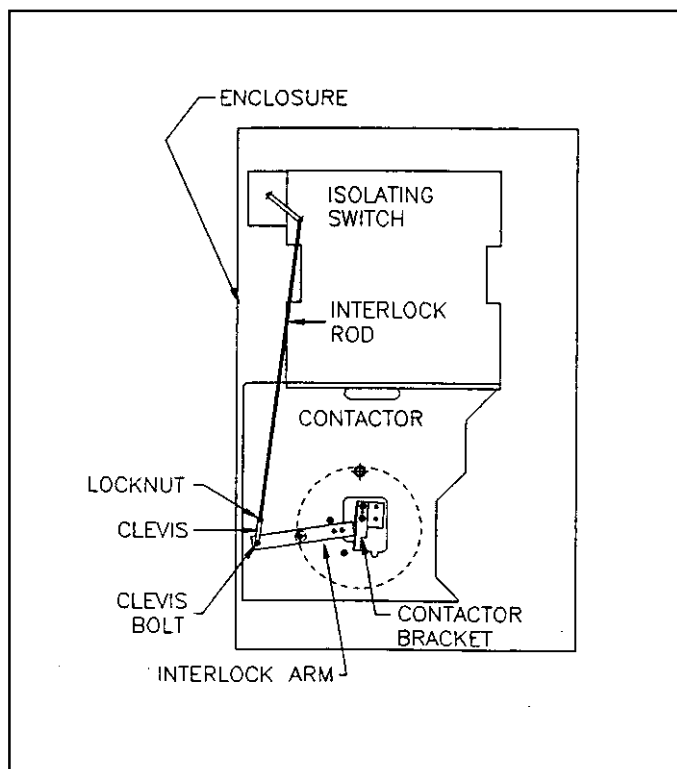
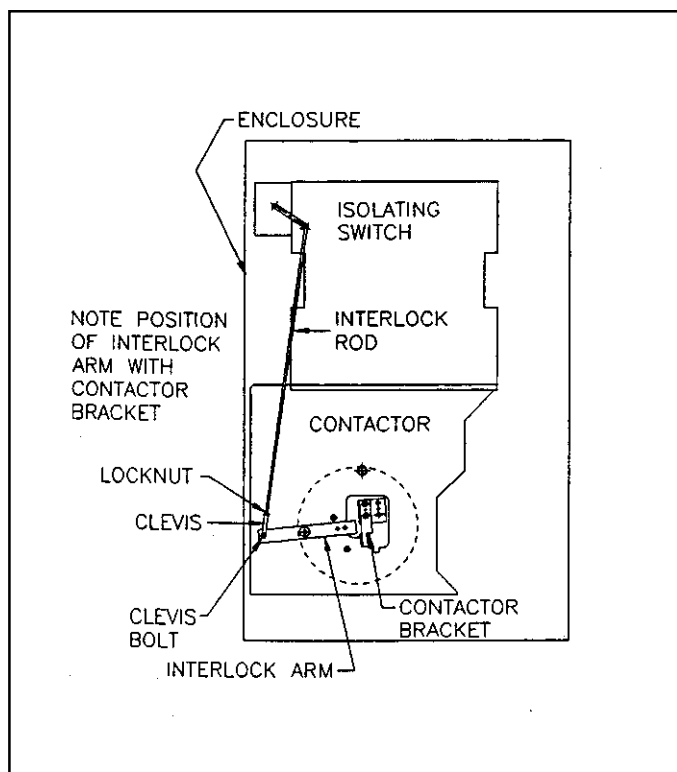

Fig. 7 Switch and Contactor Interlocked Closed
Fig. 8 Contactor Open, Interlock Neutral
There is also a mechanical interlock that is designed to prevent the isolating switch from closing with the contactor already closed, and to prevent the contactor from closing while the isolating switch is being opened. This latter state (the transition phase) is shown in Figure 7. With the isolating switch fully open or fully closed the contactor may be opened or closed. See Figure 8. If the clevis is not connected to the interlock arm, the contactor cannot be closed electrically. This is a positive interlock, it cannot be bypassed without disassembly of the interlocking parts. **DO NOT DISTURB THE FACTORY ADJUSTMENTS OF THESE INTERLOCKS!**
7. Loosen the hex-head bolt attaching the clevis at the end of the isolating switch interlock rod to the contactor mechanical interlock sufficiently far to free the clevis and rod. See Figures 7 and 8. Access to this bolt is from the low-voltage compartment. Where two contactors are bolted together by the factory and mechanically interlocked, (e.g., reversing or reduced voltage) the two are removed as a single package. The mechanical interlock and bus bar connections between them need not be removed. However, where three contactors are behind a single door and mechanically interlocked, (e.g., for a single-winding two-speed motor) the two mechanical interlocks between the top and center contactors must also be disconnected to withdraw any contactor. Loosen the clevis bolts on each interlock arm of the top and center contactors sufficiently far to free the two interlock rods between them before attempting to withdraw a contactor. Remove the interlock rods, but mark them "front" and "rear" to insure correct reinstallation. **DO NOT DISTURB ANY FACTORY-SET INTERLOCK ADJUSTMENTS.**
- 1** Remove the two positioning bolts (A). Free the clevis attached to the mechanical interlock arm. See Figure 8 on Page 6. Save all hardware.